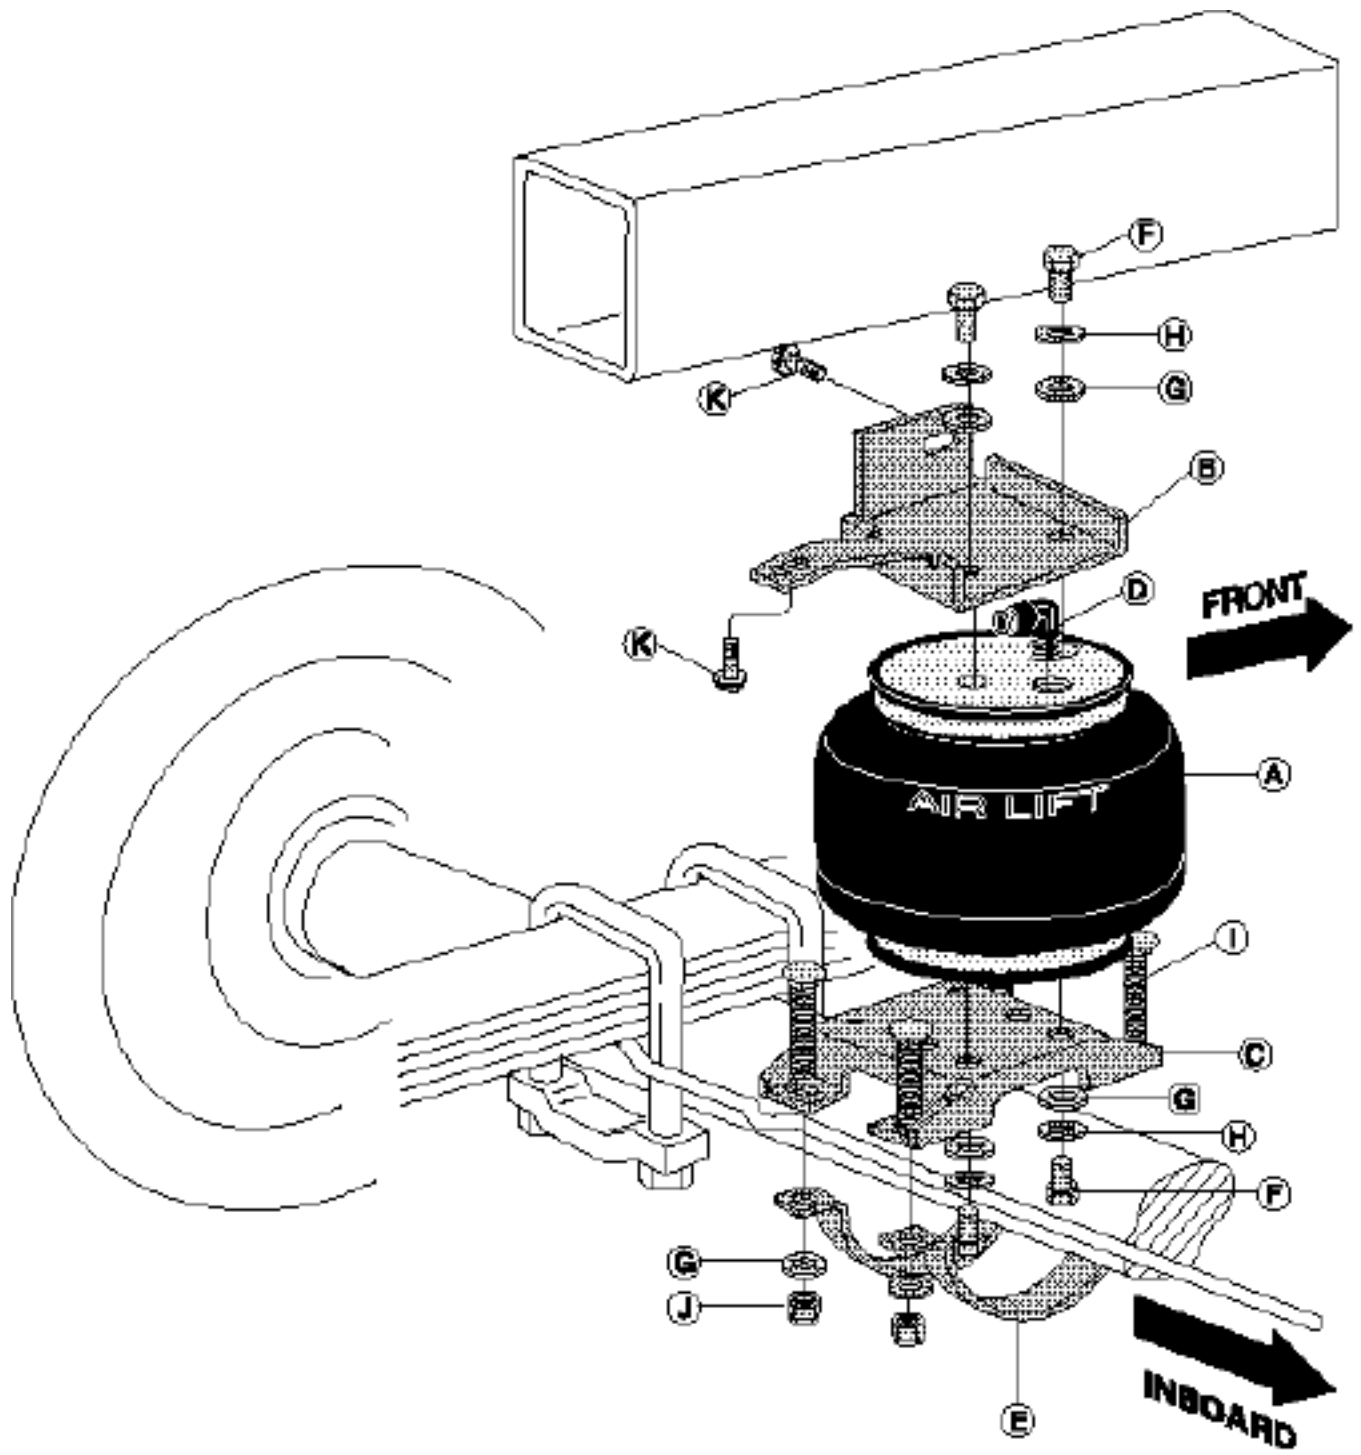

fig. 1
1. Install 90 degree air swivel elbow fitting (D) to the top of the air spring. This fitting is precoated with sealant. Using an open-end wrench, tighten 1 1/2 turns (Figs. 1 & 2a).
2. Attach the upper bracket to the top plate (label end) of the air springs with two bolts (F), lock washers (H), and flat washers (G). Torque to 20 lb.-ft. (27Nm) Assemble both units (Figs. 1 & 2a) in this manner. There are left and right hand units (indicated by "LH" or "RH" stamped in the bracket).
7. Using the holes in the upper bracket as a template, drill two 5/16" holes into the frame. Insert and tighten the self tapping screws (K) and torque to 15 lb.-ft. (20Nm) (Figs. 1 & 7).